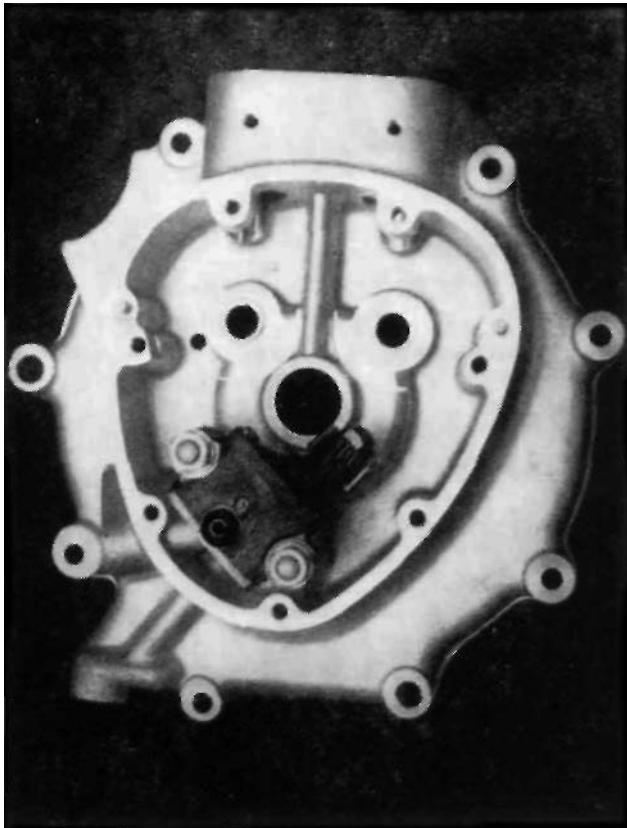

FIG. 113
**Crankcase fabric filter.** The filter element is now separate from the non return valve, and uses a blow off plunger, which will lift, if there is obstruction in the felt filter, to prevent oil being cut off to the engine (see Fig. 113).